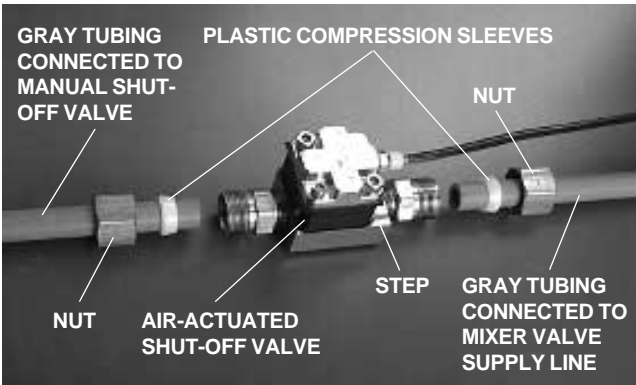

FIGURE 7
- Remove the nuts from each of the air-actuated valves. Discard the brass compression sleeves, if any, and install plastic compression sleeves. Slide the nuts and new plastic compression sleeves onto the newly cut gray tubing (*sleeve taper toward the valve*). Install the two valves with the flat manifold “step” toward the mixer valve, then tighten the nuts (see Figure 7).